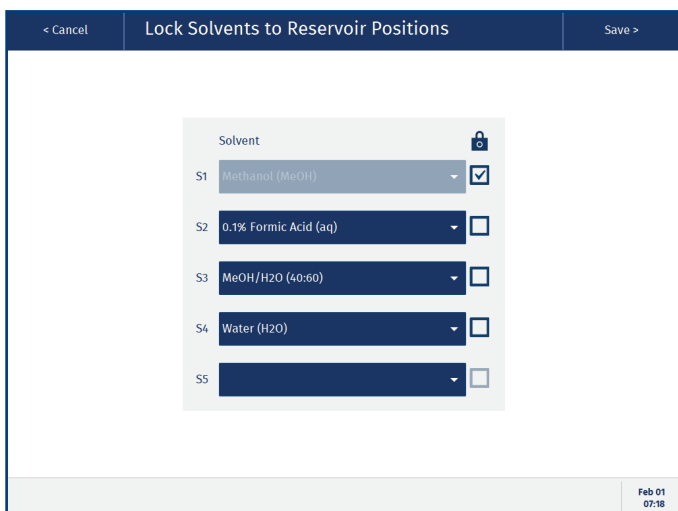

Figure 13. The Lock Solvents to Reservoir Positions view with methanol locked to reservoir S1.
2. In the **Lock Solvents to Reservoir Positions** view, select the solvent to be locked from the desired reservoir drop-down list (see Figure 13) and select the corresponding check box.